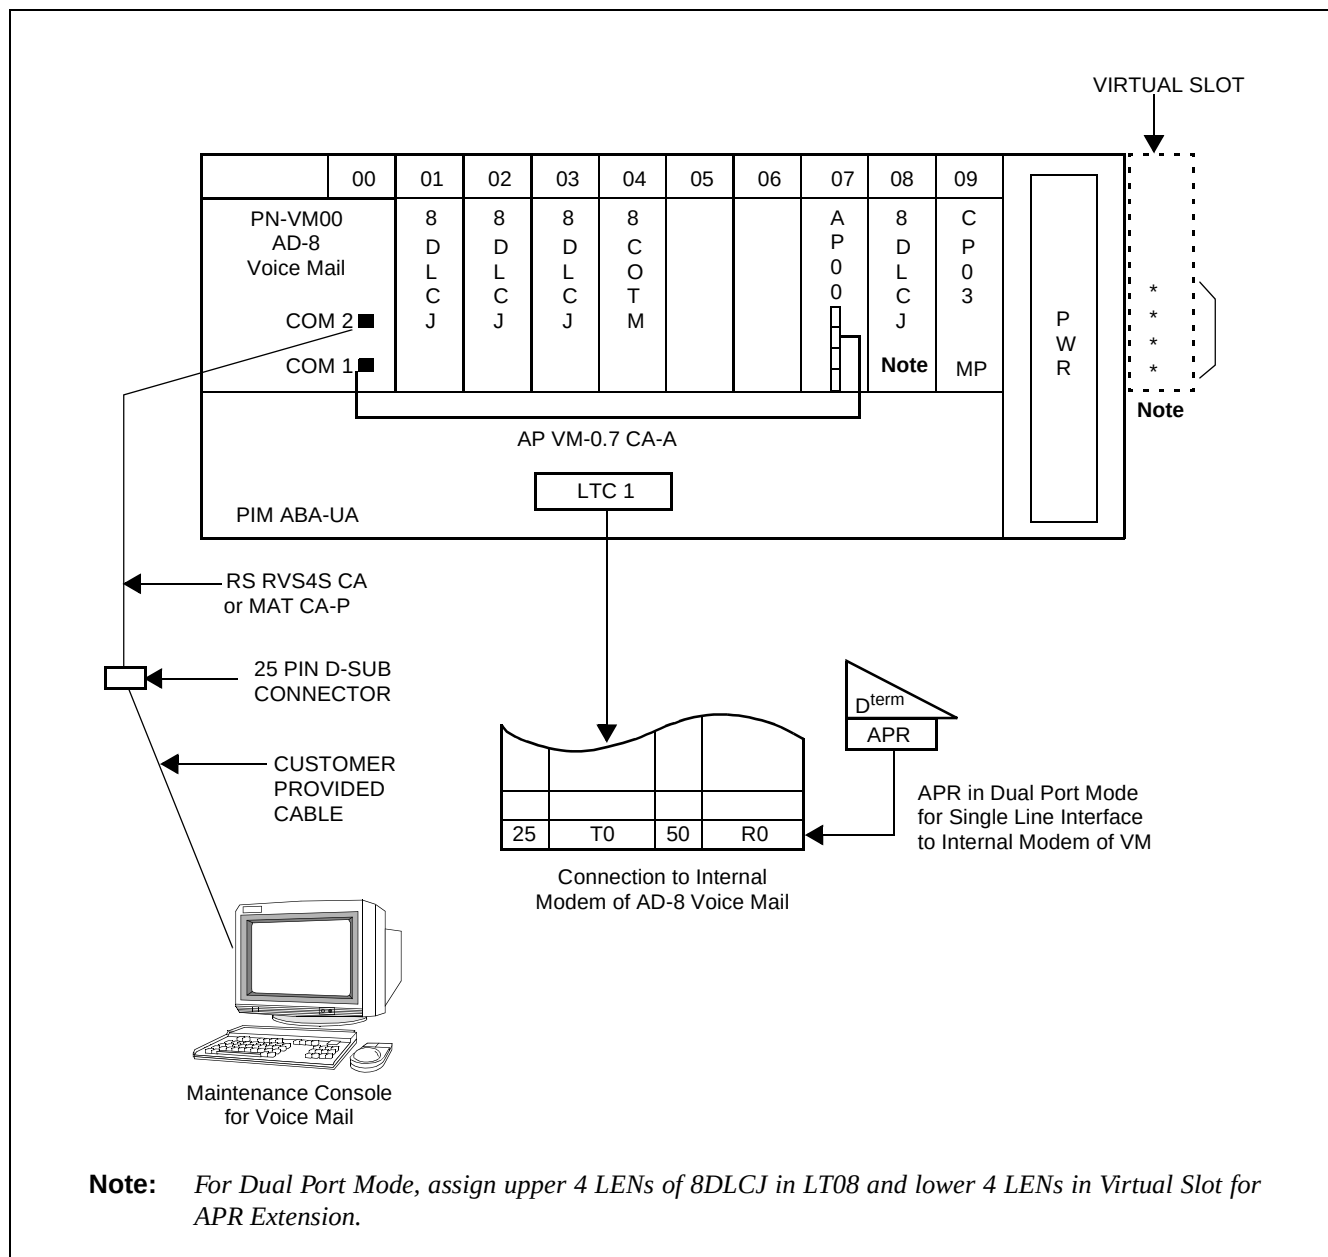

Figure 007-43 Message Center Interface Connection for VM00 to AP00
(16) Message Center Interface Connection for VM00 to AP00 (see Figure 007-43)